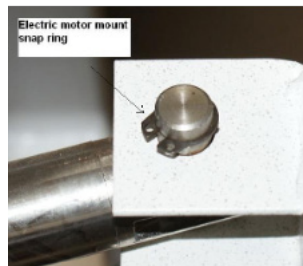

Figure 1
Step 2: Disconnect the electric motor cable from the motor control unit. Remove the snap rings and the retaining bolts that hold the electric motor to the frame assembly. See figures 1 and 2.